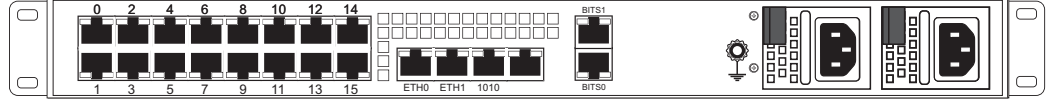

Figure 1.3
- Based upon the configuration of your 7800 series gateway, the number of 7800-TMS media switch(es) may range from zero to two. See figure 1.3 on page 3.